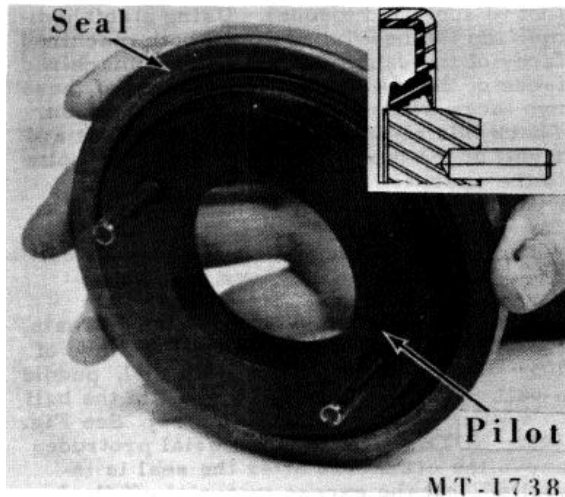

Fig. 146 Positioning Crankshaft Rear Oil Seal on SE-1942-2 Pilot
- a. Position rear oil seal on SE-1942-2 pilot from the pin side as shown in Fig. 146.